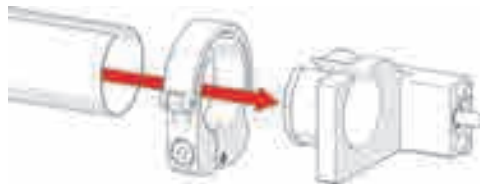

Figure 4-134 Slide tube around mount
2. Slide the clamp around the tube, and then slide the tube around the outside of the cable management mount (see Figure 4-134 on page 192).